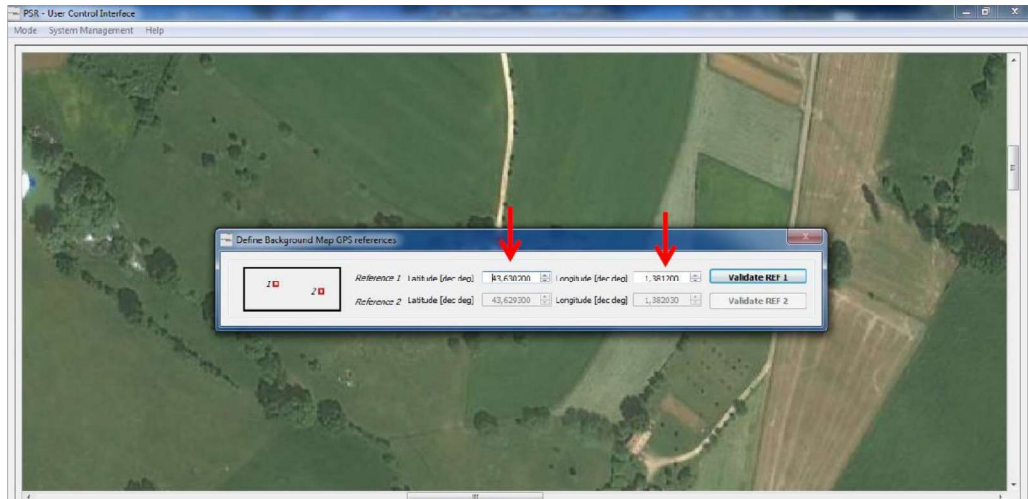

Figure 23: PSR-500 Installer – Enter GPS latitude / longitude of point [Reference 1]
- **If you imported your own map**, you should already know coordinates of the point. Register then as indicated in **Figure 23**. If you import your map from Google Earth, locate the point [Reference 1] on Google Earth map, as indicated on the following figure :